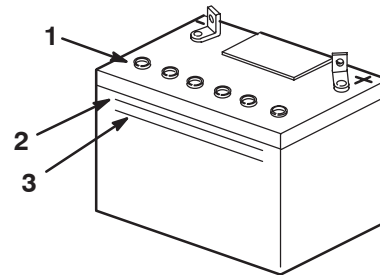

Figure 4
3. Slowly pour electrolyte into each battery cell until the electrolyte level is up to the Upper line on the battery case (Fig. 4).
5. Add electrolyte, if necessary, until the electrolyte level is up to the Upper line (Fig. 4) on the battery case.